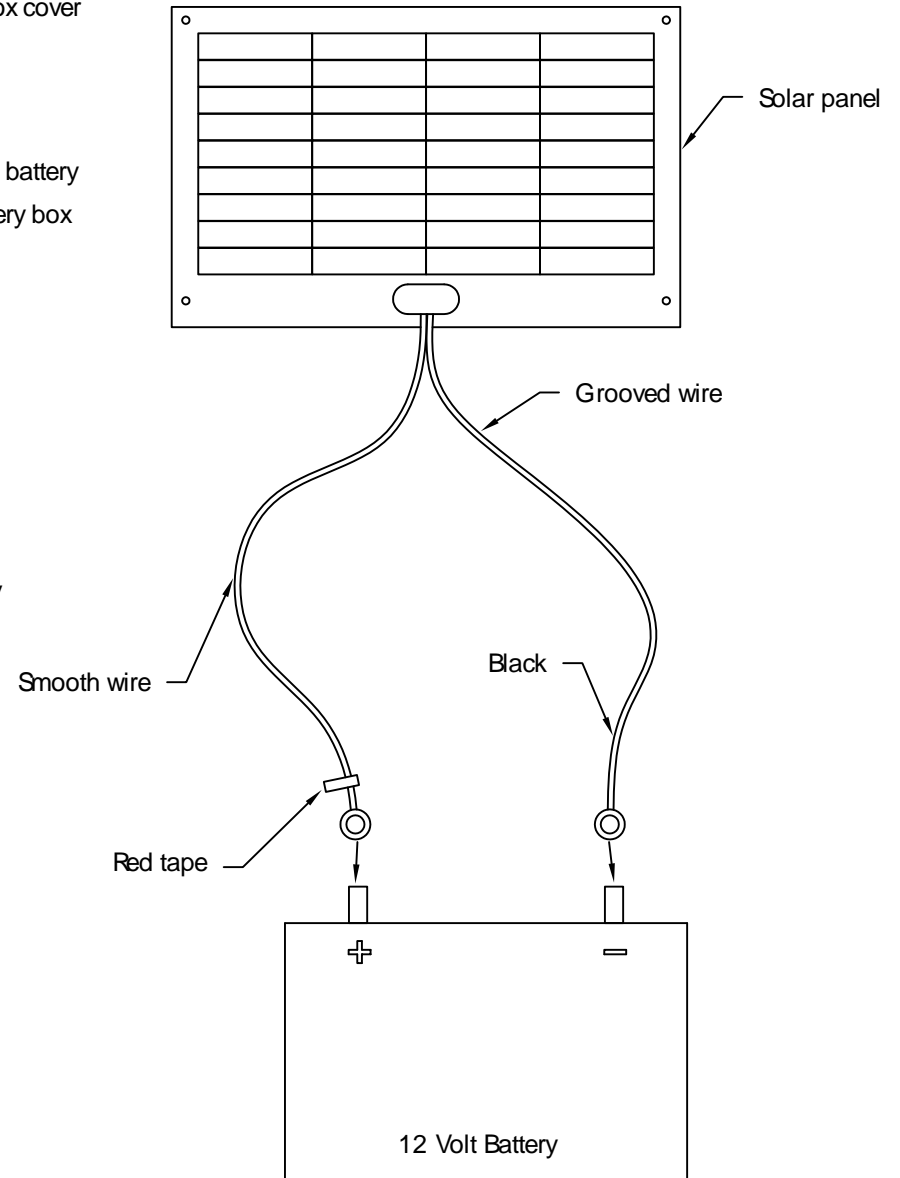

Fig. 4
4. Connect the solar panel to the battery as shown in Fig. 4. The smooth wire with red tape connects to the positive battery post and the grooved wire connects to the negative post. Strap the battery box cover to the battery box.